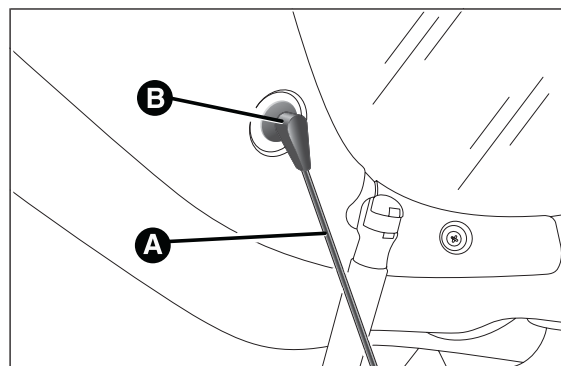

fig. 53
- ☐ free the ends of the two parcel shelf mounting links A fig. 53 by removing the eyelets B from the mounting pins;